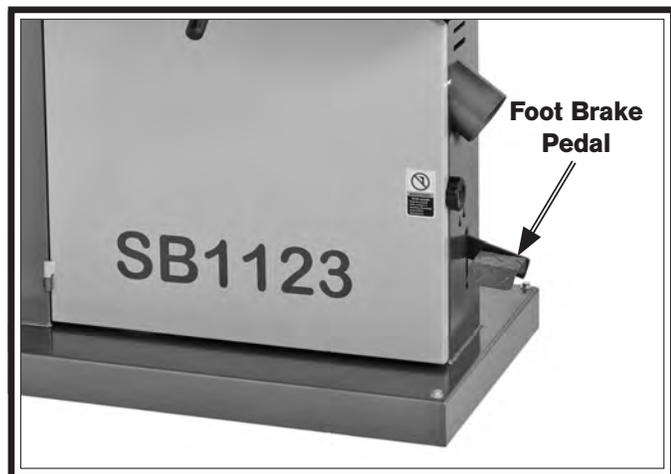

Figure 31. Location of foot brake pedal.
10. Allow motor to reach full speed, then step on foot brake pedal (see **Figure 31**). Blade should stop moving and motor should turn **OFF**.